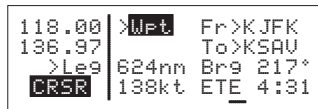

Figure 5-2
2. For this type of calculation, the cyclic field should display **Wpt**. Press **CLR** to toggle if this is not the case (figure 5-2).